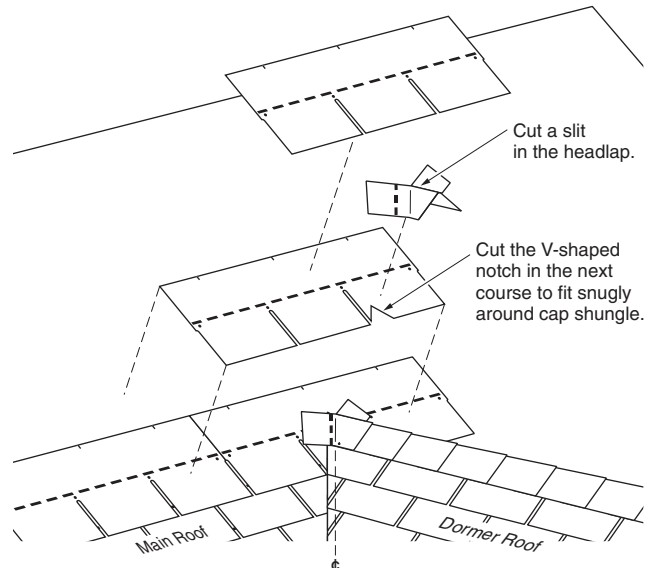

Figure 9-10: "Exploded" view of the entire assembly where the dormer ridge meets the main roof.
- The slit in the ridge cap must be covered completely by the shingle over it in the next course. If cutouts or butt joints are closer than 4" to the slit, a scrap piece of shingle at least 8" wide by 12" high should be installed over the cut before the full shingle is applied (*Figure 9-10*).